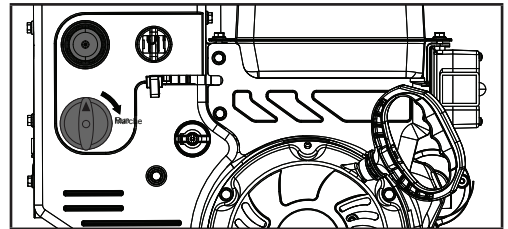

Figure 12B
- b. To start a warm engine, move the choke lever to the run position (Fig. 12B).
5. Use primer control depending on unit's temperature (Fig. 12B):
8. When the engine starts, move the choke to run position (Fig. 12B).